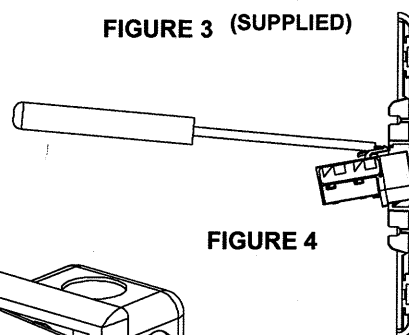

FIGURE 4
5. JACK REMOVAL INSTRUCTIONS: (SEE FIGURE 4)